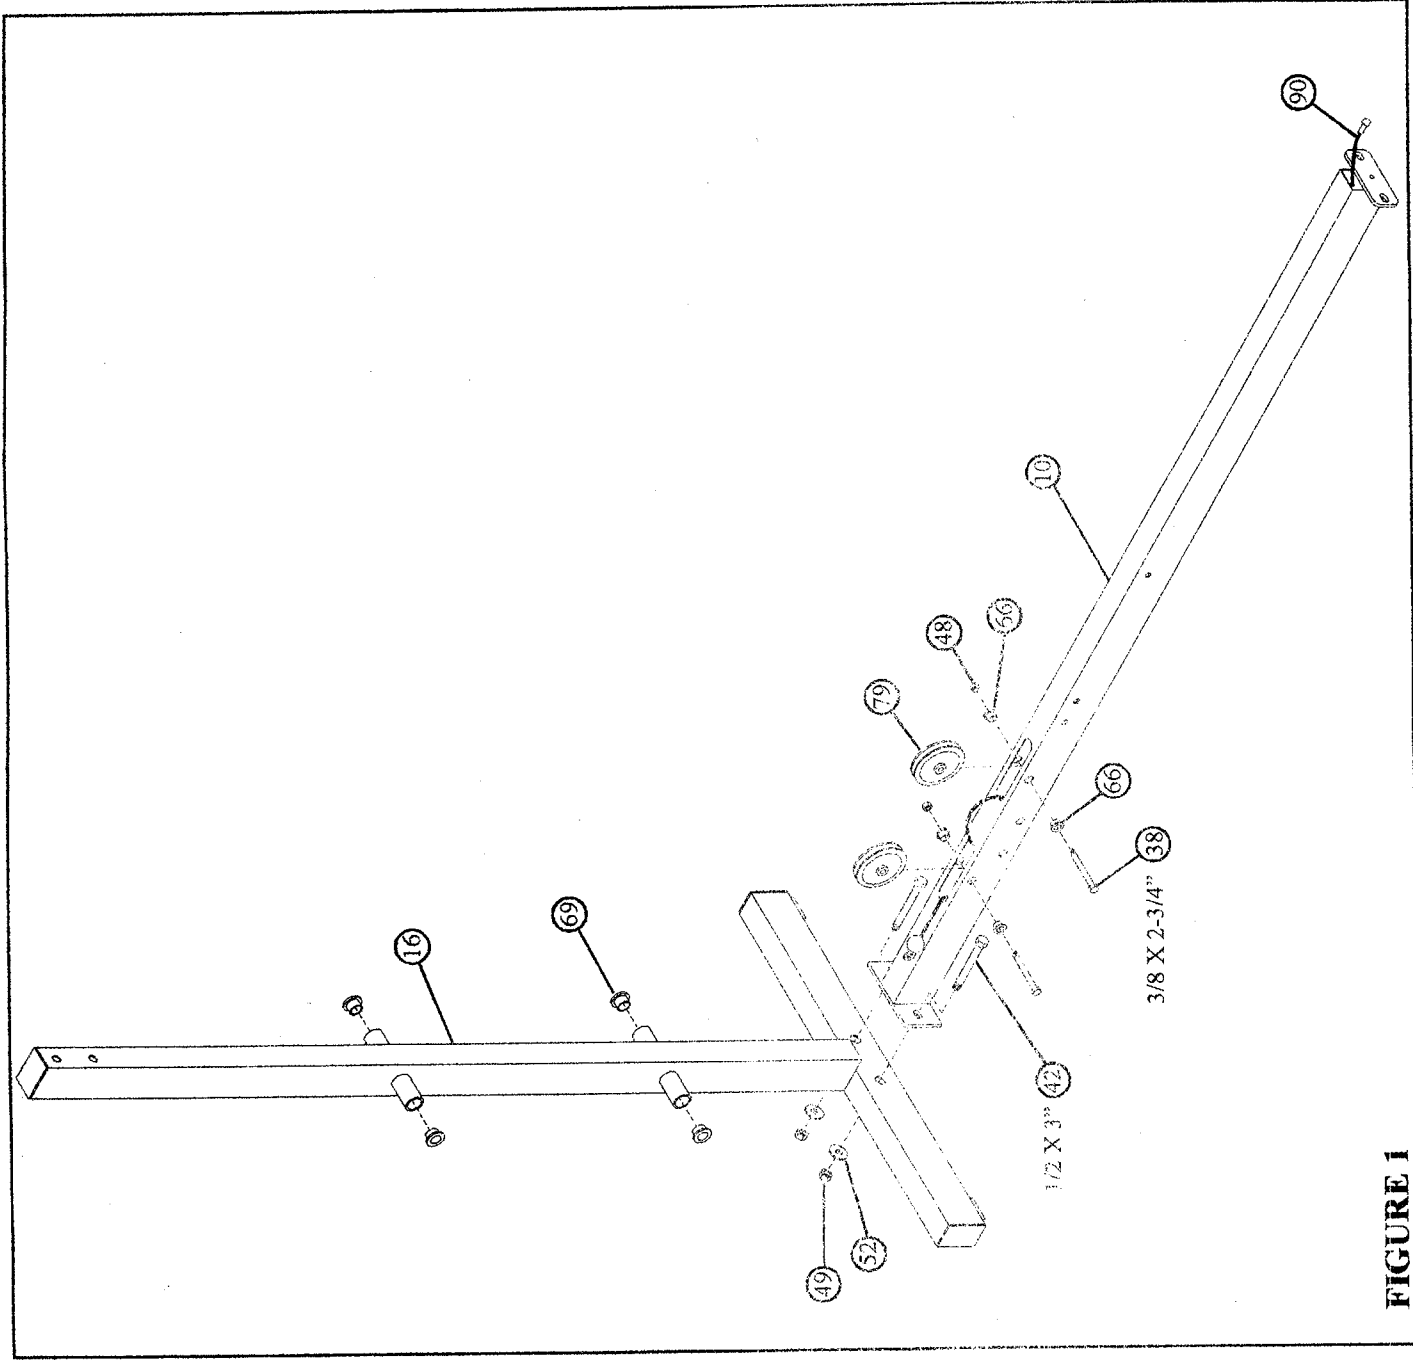

FIGURE 1
- Securely assemble REAR UPRIGHT (16) to BASE (10) using two 1/2 X 3" BOLTS (42), two 1/2" WASHERS (52), and two 1/2" LOCKNUTS (49).
- Slide LEG EXT. CABLE ASSEMBLY (90) through openings in BASE (10) as shown in FIGURE 1.
- Securely assemble two 3-1/2" PULLEYS (79) into BASE (10) using two 3/8 X 2-3/4" BOLTS (38), four 3/8" FLANGE SPACERS (66), and two 3/8" LOCKNUTS (48). **(NOTE: Make sure LEG EXT. CABLE ASSEMBLY (90) is routed under PULLEYS and BOLTS.)**
- Slide LEG EXT. CABLE ASSEMBLY (90) through the opening in the end of the BASE (10) as shown in FIGURE 1.
- Insert four 3/4" FLANGE BEARINGS (69) into tubes on REAR UPRIGHT (16) as shown in FIGURE 1